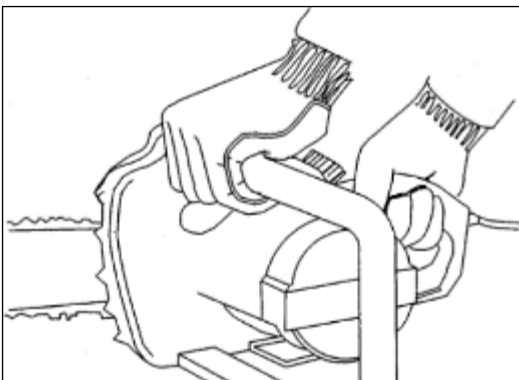

Fig.1
- **Maintain a firm grip, with thumbs and fingers encircling the chain saw handles, with both hands on the saw and position your body and arm to allow you to resist kickback forces. (Fig.1)** *Kickback forces can be controlled by the operator, if proper precautions are taken. Do not let go of the chain saw.*